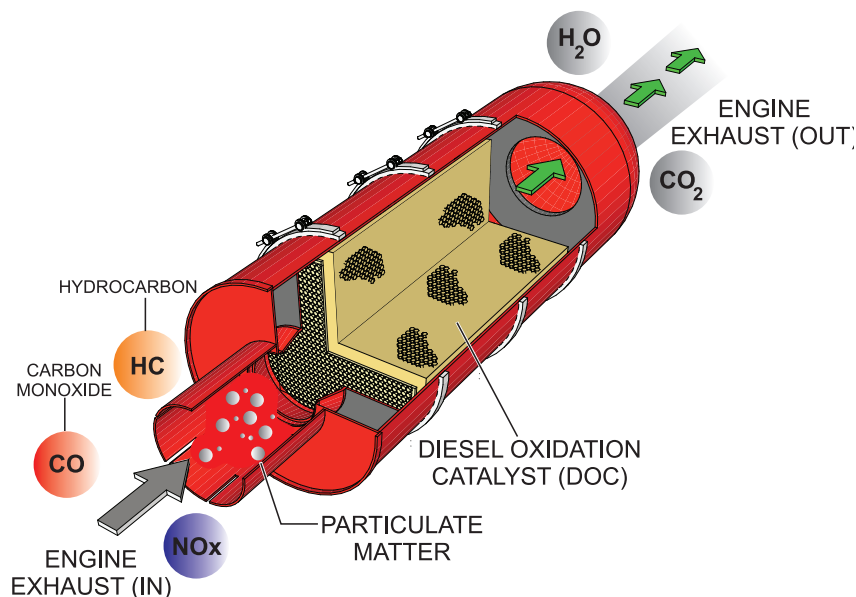

Figure 73. Diesel Oxidation Catalyst (DOC)
The DOC device (Figure 73) helps in filtering out large amounts of harmful **Nitrogen Oxides (NOx)** and **Particulate Matter (PM)** which are emitted by diesel engines. These exhaust emissions pose serious environmental and health risks. It is important to maintain and service the DOC emission safety device on a periodic basis.